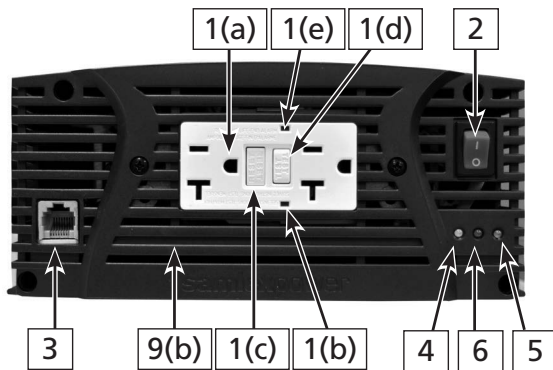

Fig 3.1.1 Front view of
#### Legend for Fig 3.1.1 and 3.1.2
**Well ventilated:** The unit is cooled by convection and by forced air-cooling by a load and temperature controlled variable speed fan (9, Figs 3.1.2 and 3.2.2). The fan will start running slowly at around 15% loading. At around 70% rated load, it will run at high speed. At any point, if the internal temperature is  $> 70^{\circ}\text{C}$ , the fan will run at high speed (temperature control will override load control). The fan draws cool air from air intake openings in the front [9(b) in Figs 3.1.1 and 3.2.1] and discharges hot air through the exhaust openings next to the fan [9(a) in Figs 3.1.2 and 3.2.2]. To avoid shut down of the inverter due to over temperature, do not cover or block these intake / exhaust openings or install the unit in an area with limited airflow. Keep a minimum clearance of 10" around the unit to provide adequate ventilation. If installed in an enclosure, openings must be provided in the enclosure, directly opposite to the air intake and air exhaust openings of the inverter.